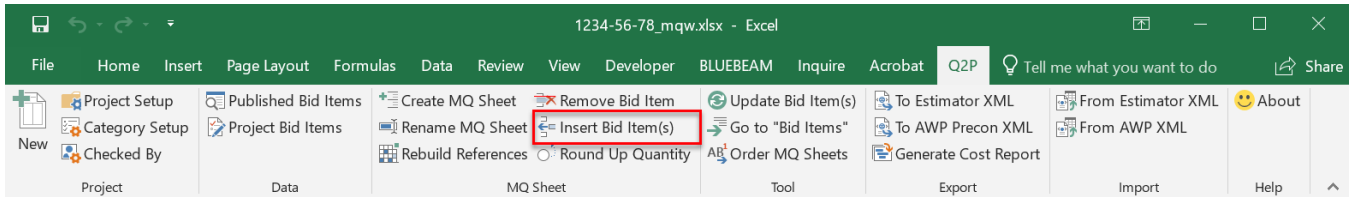

Figure 8.4 “Insert Bid Item(s)” command.
- From the *MQ Sheet* section of the Q2P ribbon, select **Q2P > MQ Sheet > Insert Bid Item(s)** (Figure 8.4).